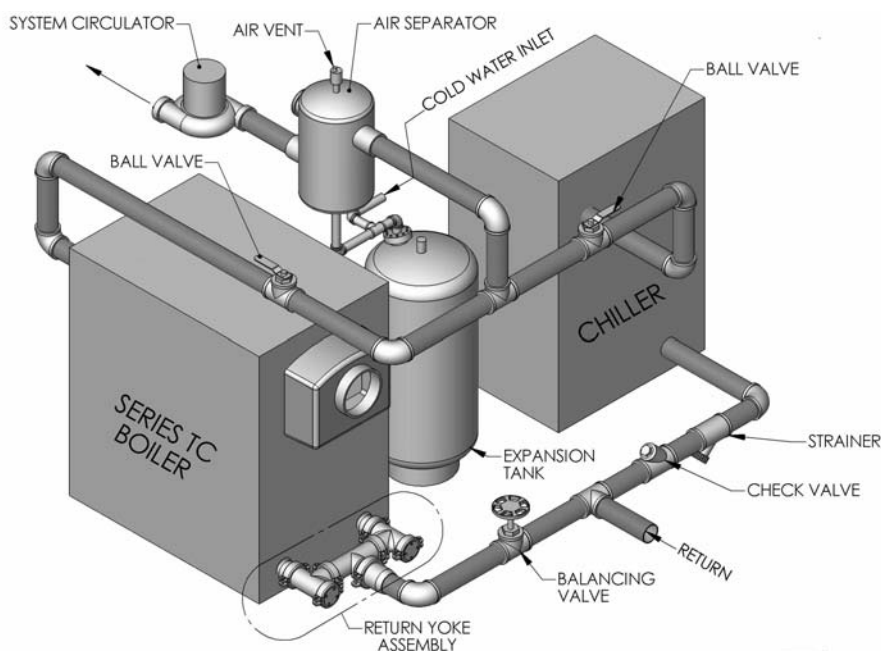

Figure 3.8: Chilled Water Systems
- a) If the boiler will be used in conjunction with a chilled medium system, the chiller must be piped in parallel with the boiler to prevent the chilled medium from entering the boiler and causing damage. See Figure 3.8.